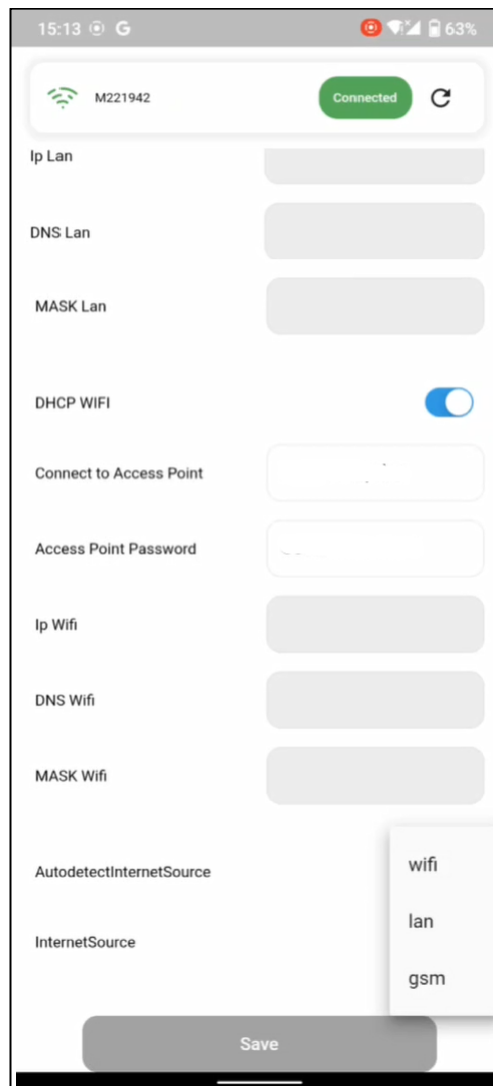

Figure 5.23. The window for selecting and setting the connection type for connecting to the Internet
5. 5. Return to the application and in the "InternetSource" section (Figure 5.23) select the type of network that the station will use (wifi/lan/gsm).